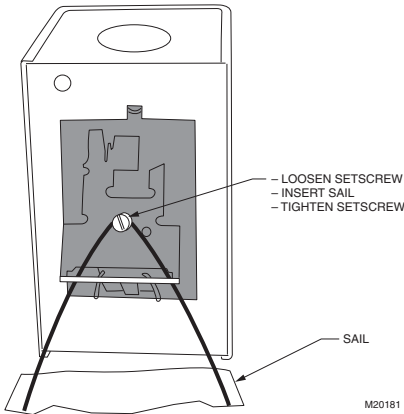

Fig. 9. Attaching sail to switch.
4. Attach the sail to the switch as shown in Fig 9.